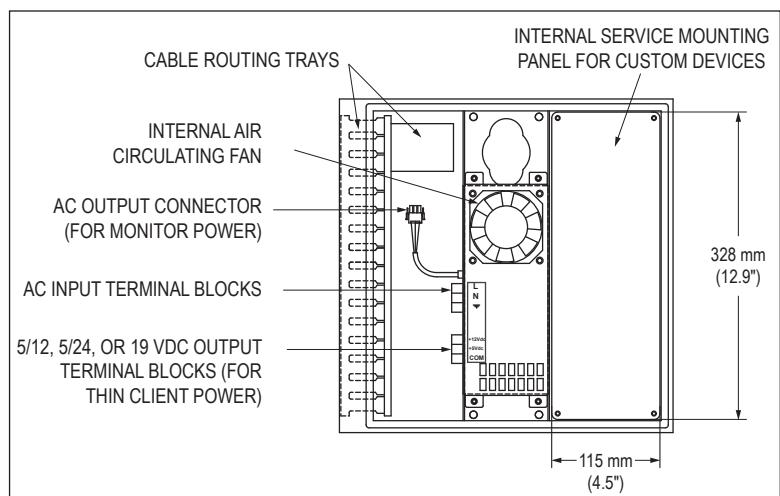

FIGURE 2 – INSIDE VIEW OF ENCLOSURE
2. Refer to Figure 2. Remove caps on Cable Routing Trays.
3. Refer to Figure 2. With power disconnected, hook up incoming power from mains supply to the AC input terminal blocks ("L" is black; "N" is white). Securely tighten terminal block screws.
5. Refer to Figure 2. Hook up AC power to the monitor using an HIS CCAC- __ cable (not included). Disconnect and discard the end of the cable with the NA plug. Plug the C-13 connector end of the cable into the power input port on the rear of the monitor. Route the cable in through the hole in the pedestal to the Thin Client / PC enclosure. Connect the Molex connector end of the cable to the AC output connector. Route cables through Cable Routing Trays.
- a. For Thin Clients or PCs with a power requirement other than what is provided, or it is undesirable to cut the DC power cable, use the device manufacturer's brick power supply. Install the brick power supply to the internal service panel (shown in Figure 2) and connect the AC power side to the AC power input terminal block using HIS part number MK-1OUTLET-xx. After completing the installation, continue to step 12.
11. Refer to Figure 2. Hook the DC cable wires to the terminal block in the correct polarity [i.e. ground to COM (-)]. Connect the other wire to the appropriate 5, 12, 19, or 24 VDC terminal.